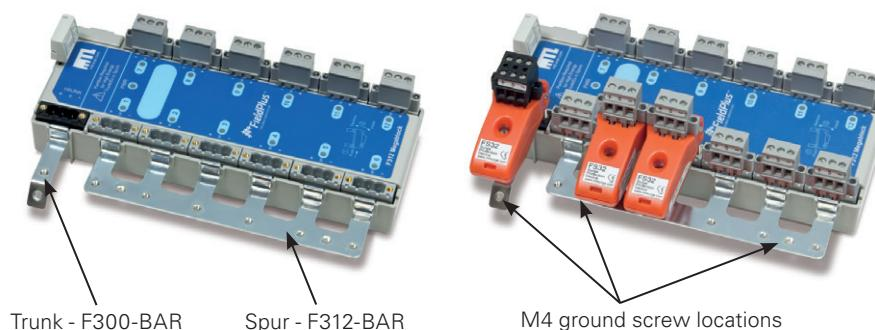

Figure 5.6: Typical grounding bars
Each fieldbus terminal, trunk or spur, on a Megablock can be fitted with an FS32 surge protector to prevent damage to the internal components. The FS32 uses the same pluggable connector as the field connector; so the field connector is removed, the FS32 inserted and the original field connector is fitted to the FS32. See Figure 5.6 & 5.7.
2. Locate the grounding bar lugs in the moulded positions on the side of the Megablock and press it firmly into place - see Figure 5.6.
A separate grounding bar (F300-BAR) is used for the trunk connector, which must be similarly connected to ground - see Figures 5.6 & 5.7. Follow a similar procedure to the one above for the trunk circuit.